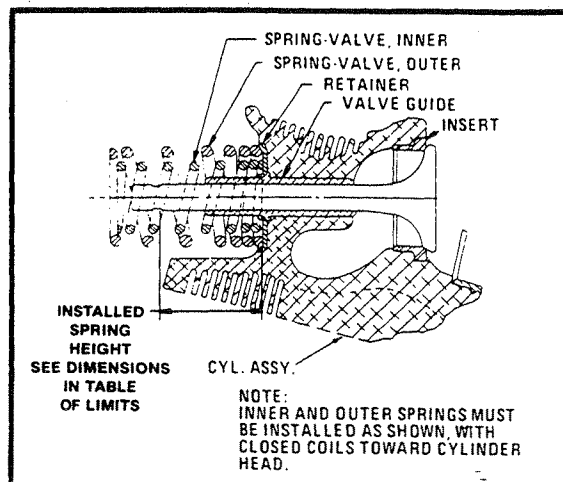

FIGURE 72-50-04. VALVE SPRING INSTALLATION
B. Place valve spring retainers (17) over valve guides (8 & 9), cupped side up. Install valve guide seal on intake valve guides. Install inner and outer valve springs (15, 16), per instructions in Fig. 72-50-04, rotocoil (14). Compress springs and install keys (13). On Models O-470-U spec. 11 & 18, install rotocoils on exhaust and intake valves. Make certain keys are properly seated before releasing pressure on springs. Remove cylinder from fixture and set it upright on a bench. Strike end of each valve stem sharply with a rawhide mallet to set stem keys. After valve mechanism has been assembled check valve spring height according to dimensions given in table of limits Figure 72-30-08.
C. Install new packing (42) on each cylinder skirt. Push against flange and make certain none are twisted. Coat cylinder bore walls thoroughly with Grade 50 MHS 27 oil.